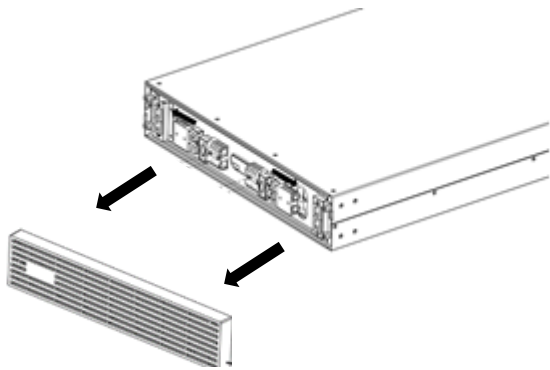

Figure 1
- 1) Remove the front panel of the battery pack by pulling from each end, directly away from the metal case. (Figure 1)